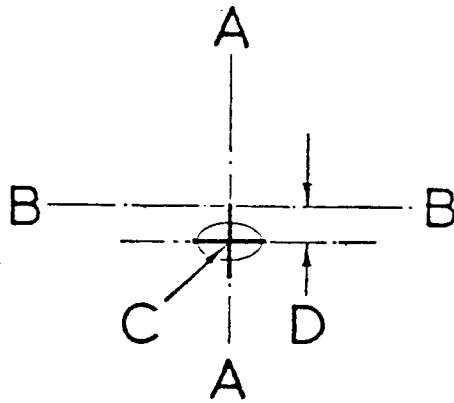

Fig O5.10
- (4) Refit the headlamp shell (6) by rotating it into the slotted locations.
- (5) Reconnect the spring to the headlamp shell (5).
- (6) Refit the light unit (4) and connect the leads to the plug connector.
- (7) Replace the headlamp rim (3) and secure with the self tapping screws.
- (8) Refit the headlamp bezel (2) and secure with the fixing screws.
- (9) Reconnect the battery earth lead.
- (10) Check and if necessary adjust the headlamp using suitable beam setting equipment. The beam setting screws and beam position diagram are given in Fig O5.10 below: